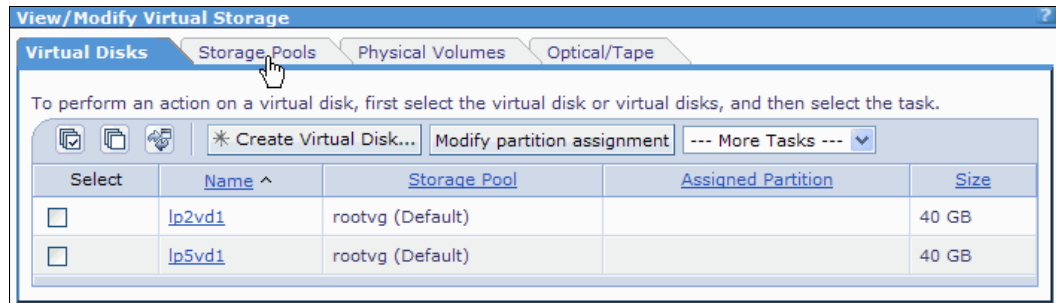

Figure 4-4 View/Modify Virtual Storage window
2. Click **Storage Pools** tab in the work area, as shown in Figure 4-4.